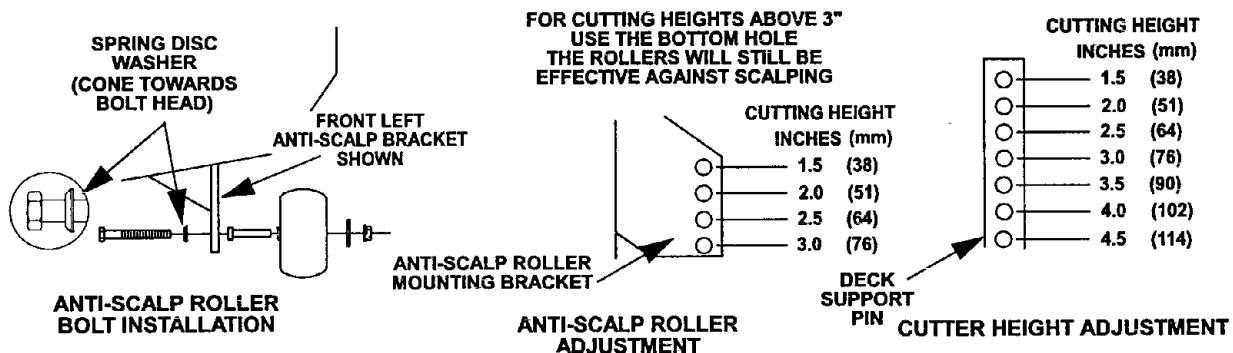

FIG 5
- c) When operating in extremely rough conditions it may be necessary to position the anti-scalp rollers one or two holes higher than described in "b" to prevent damage to the rollers and/or bolt failure (See Figure 5).